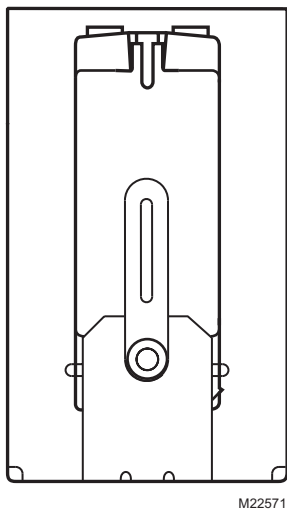

Fig. 7. Actuator at mid-position.
2. Position the actuator at mid-position (see Fig. 7):